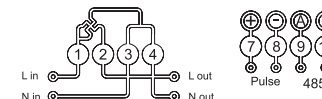

Fig. 3 Wiring diagram
7.5 Wiring diagram is shown in Fig. 3.